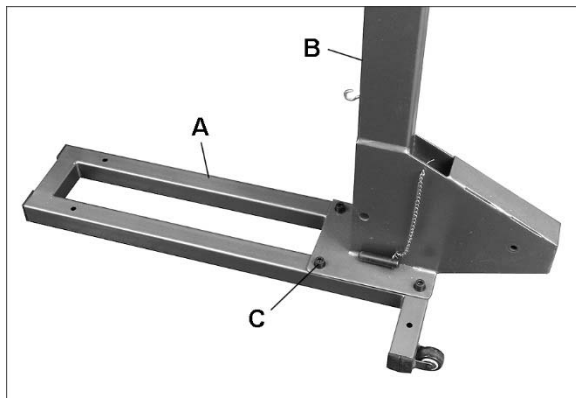

Figure 5-1
1. Place base (A, Figure 5-1) on floor, and mount stand (B) using four M10x20 socket hd. screws and washers (C). Tighten screws securely.